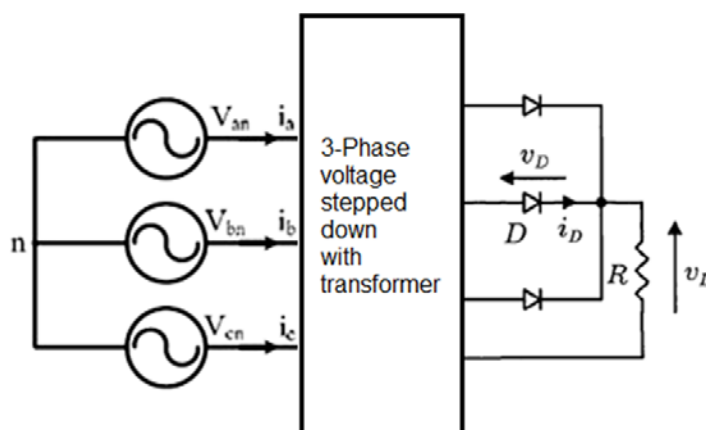

Figure 1. Three-phase half-wave rectifier
1. Arrange the circuit as shown in Figure 1.